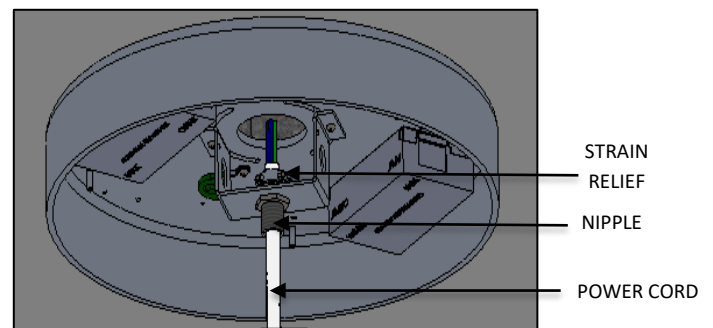

FIG. 29 – CORD CONNECTION TO DRIVERS
8. Feed POWER CORD through the NIPPLE (available in CANOPY ASSEMBLY) and secure at desired length with STRAIN RELIEF provided in CANOPY ASSEMBLY as shown in FIG 29.